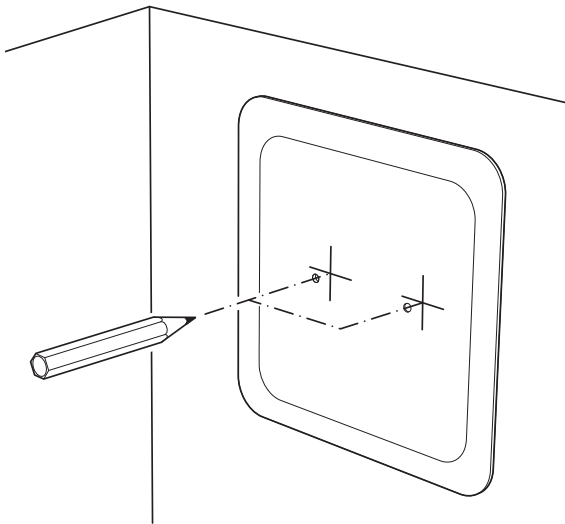

Fig. 16
- ① Use the installation template to mark the drill holes for attaching the Connect to the wall.
- Use a pencil to mark the two positions for the button head cap screws (Fig. 16).